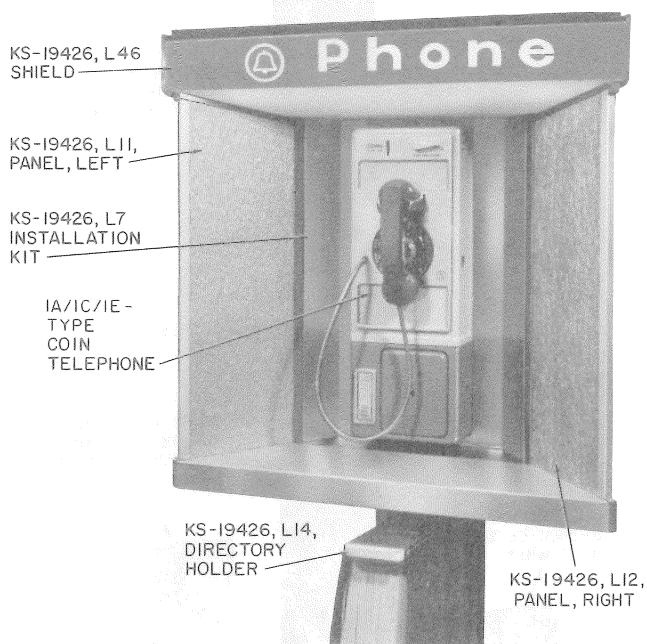

Fig. 10—KS-19426 Mounting Using 1-Type Coin Telephone Set
2.17 The 1-type coin telephone set may be used with the KS-19426 mounting but requires a List 7 installation kit. This kit consists of mounting screws, left and right side shrouds, and associated brackets (Fig. 10).